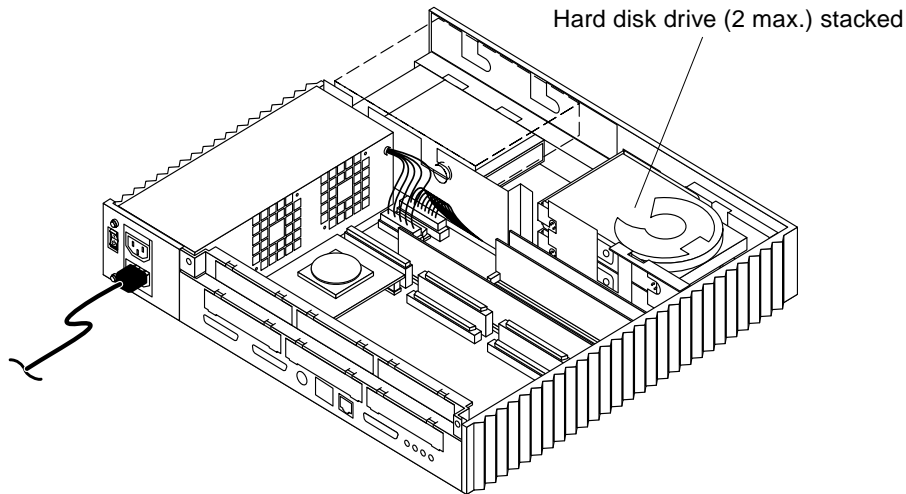

FIGURE 9-1 Location of Hard Disk Drives
3. **Determine which drive to remove (FIGURE 9-1); the system supports up to two internal hard disk drives.**